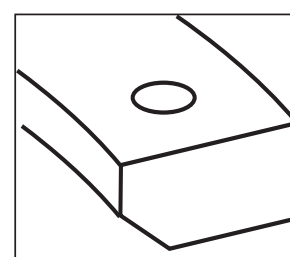

Figure 2
- 2- Plain cast ring usually goes in second groove. Plain cast type is usually a reverse torsion ring. distinguished by an inside diameter bevel on one side of ring, and a dot, letter, or oversize mark on other side. **See Figure 2.** Some second rings may have a hook shaped groove machined around the bottom of the the outer diameter. If two cast iron compression rings are supplied in a set, check to see if one has mark and bevel or hook shaped groove. These rings always go in second groove with marking up if present and bevel or groove facing down.
- 6- If ring has dot or letter and inside diameter bevel, dot or letter goes to top of piston. **See Figure 2 and 3.**